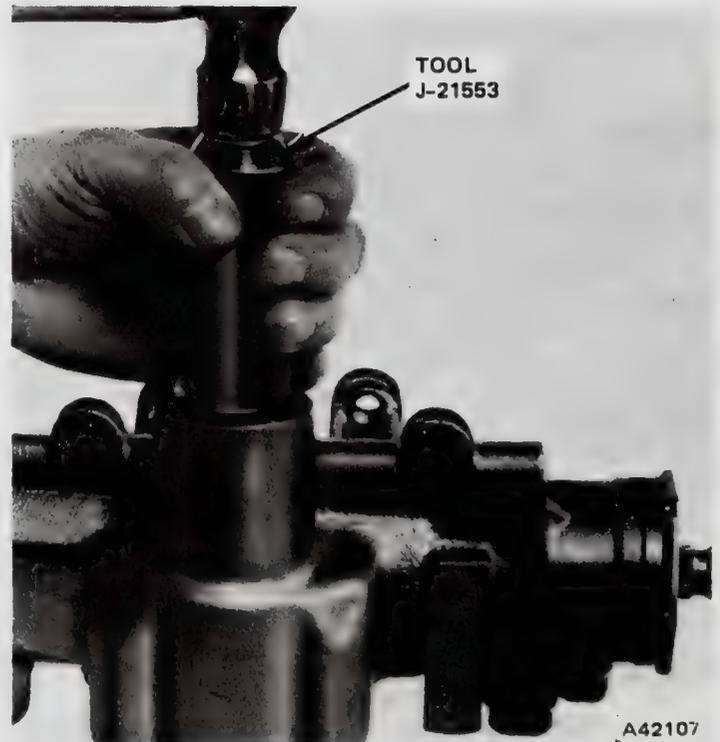

Fig. 2K-18 Pitman Shaft Seal Installation
(2) Remove thrust bearing spacer, thrust bearing, and bearing races.
(3) Remove and discard adjuster plug O-ring seal.
(4) Remove stub shaft seal retaining ring using Snap Ring Plier Tool J-4245.
(5) Remove and discard stub shaft dust seal and oil seal. Use screwdriver to pry seals out.
(6) Remove needle bearing using Bearing Remover-Installer Tool J-6621 (fig. 2K-20).